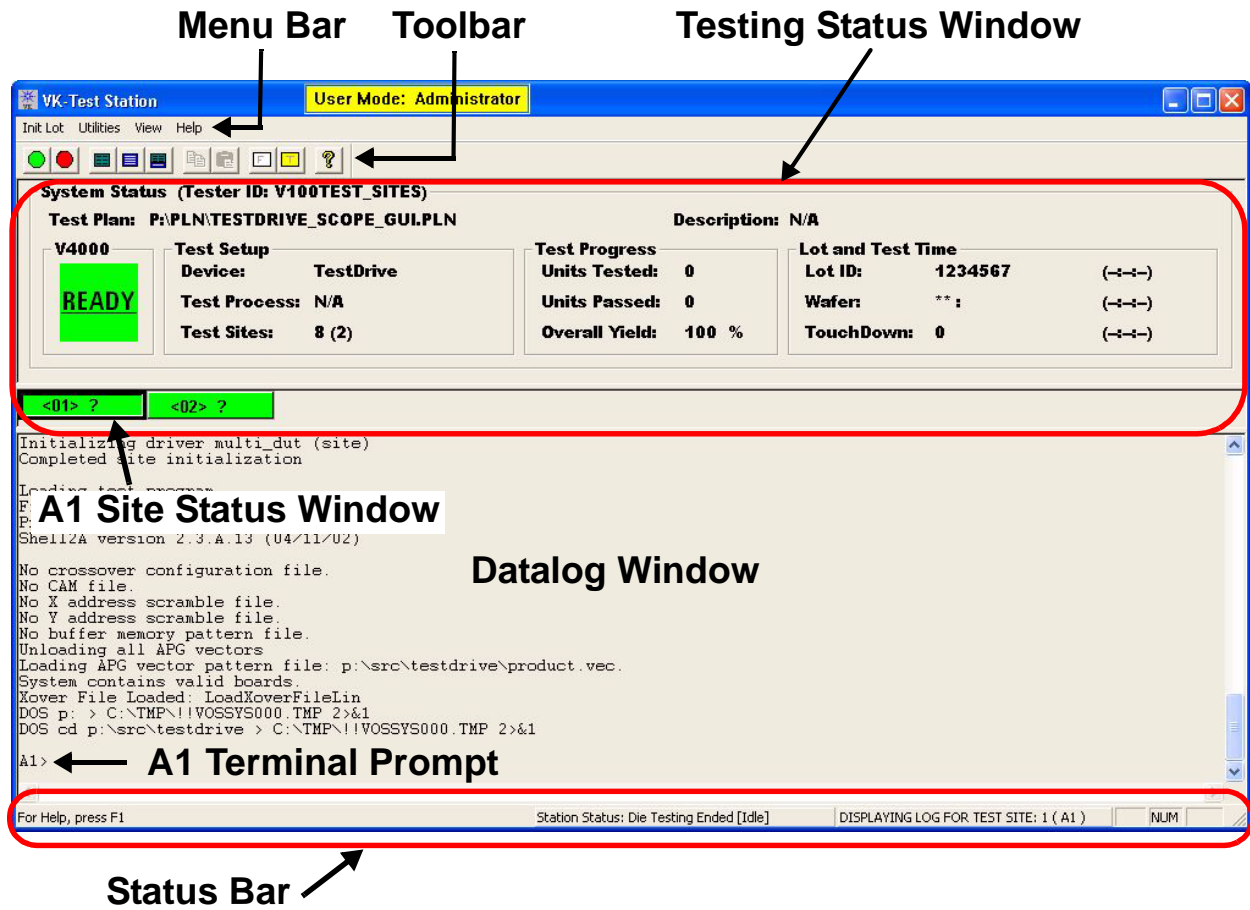

Figure 5-42. VK Test Station Main Window After Power On
- 8 Selecting **OK** begins the test head power on and downloads the Versatest Operating System (VOS) and the test program files specified in the plan file. The power on is complete when the terminal prompt **A1>** displays in the Datalog window (Figure 5-42). Note that the Status Bar displays **Station Status: Ready** **DISPLAYING LOG FOR TEST SITE: 1 (A1)** that indicates the test sites are powered on and ready to run the downloaded test program.